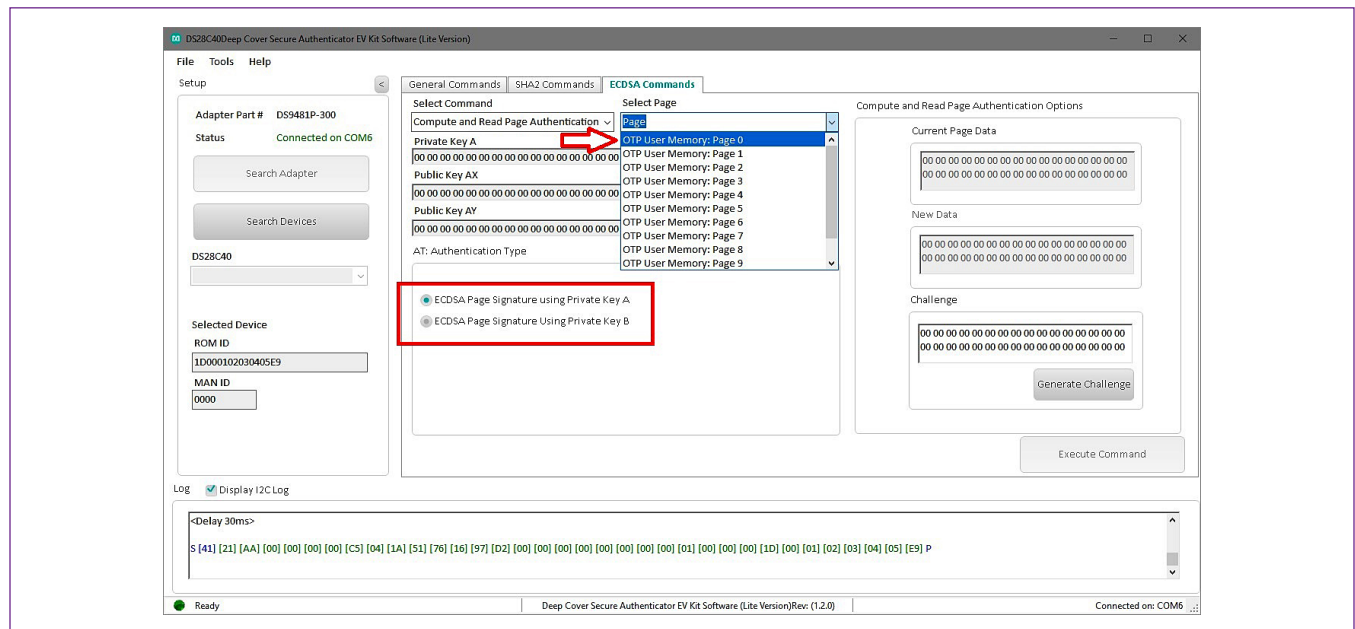

Figure 27. Selecting Page and Key
- 5) From the **Select Page** drop-down menu, select the desired page and public key (Figure 27).
- 6) From the **AT: Authentication Type** combo box, select the private key (Figure 27).